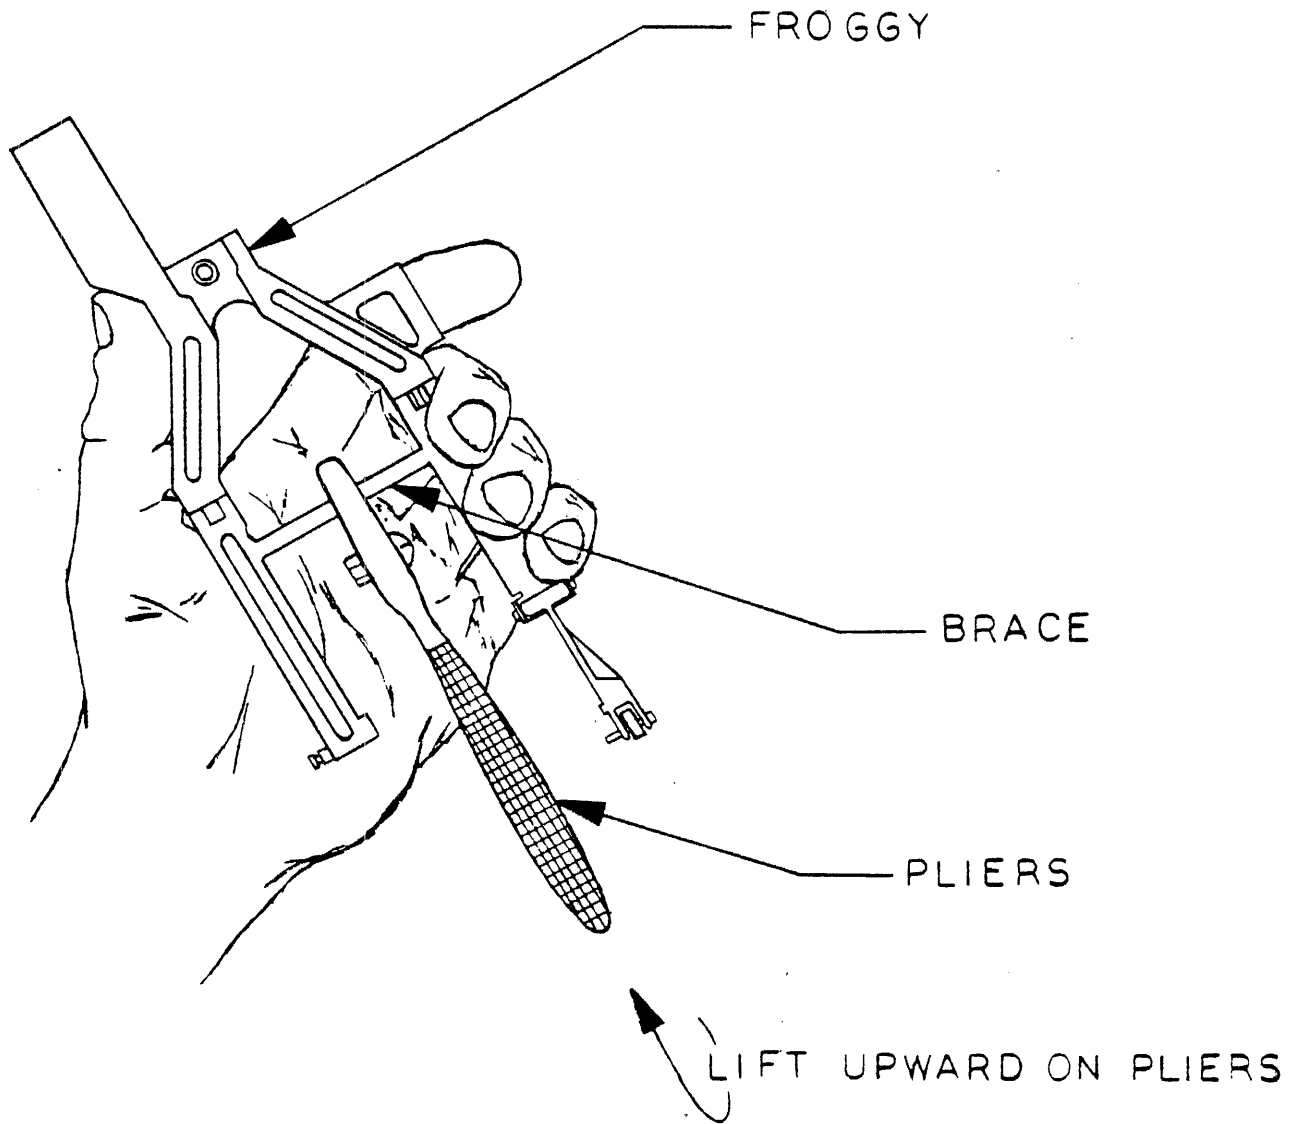

FIGURE 1. THE REMOVAL OF THE BRACE FROM THE FROGGY
- 7.1.1 Hold the froggy and pliers as shown in Fig. 1.